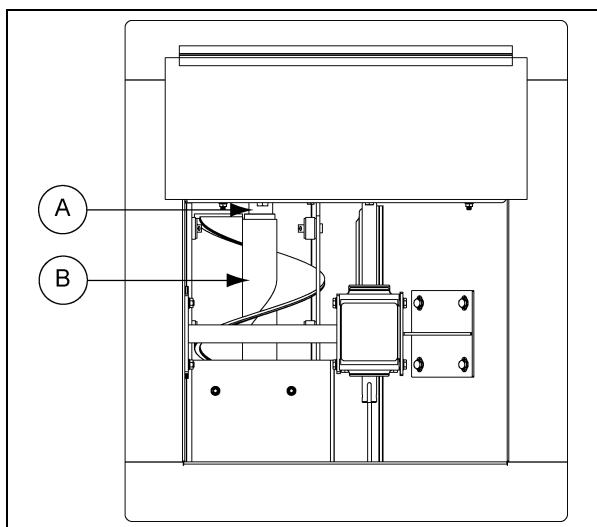

Figure 4V
3. When the flight is approaching the center well shaft, it will be necessary to rotate the flight counterclockwise in order to get it to seat properly on the squared clutch shaft. When the flight is properly seated, the flight should be entirely inside the unload tube. It may be necessary to pull the flight out, a small amount and attempt this step multiple times in order to seat the flight properly. (See Figure 4V.)
4. On the initial stage, install with an empty bin, the installer might want to open the center well and enter the bin to check and see that the flight is seated. Once they have seen that it has seated, they will know the proper position of the flight on the discharge end when it has seated properly. (See Figure 4V.)